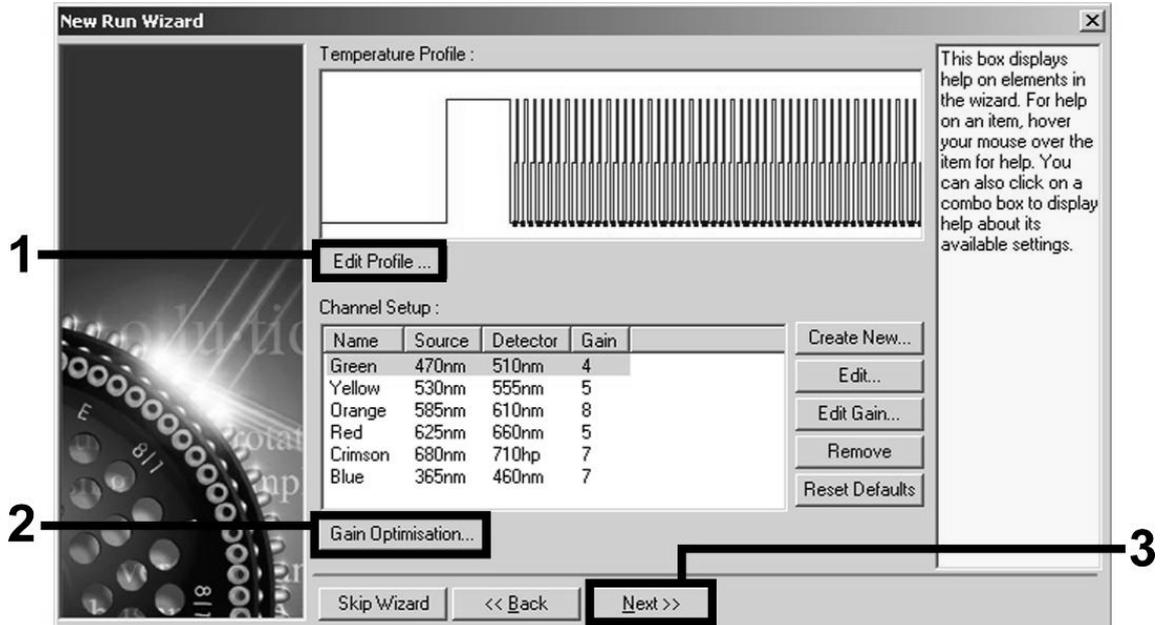

Figure 6. Editing the profile.
- Click the "Edit Profile" button in the next "New Run Wizard" dialog box (Figure 6), and program the temperature profile as shown in Figures 6–9).
9. The detection range of the fluorescence channels has to be determined according to the fluorescence intensities in the PCR tubes. Click "Gain Optimisation" in the "New Run Wizard" dialog box (see Figure 6) to open the "Auto-Gain Optimisation Setup" dialog box. Set the calibration temperature to 50 to match the annealing temperature of the amplification program (Figure 10).